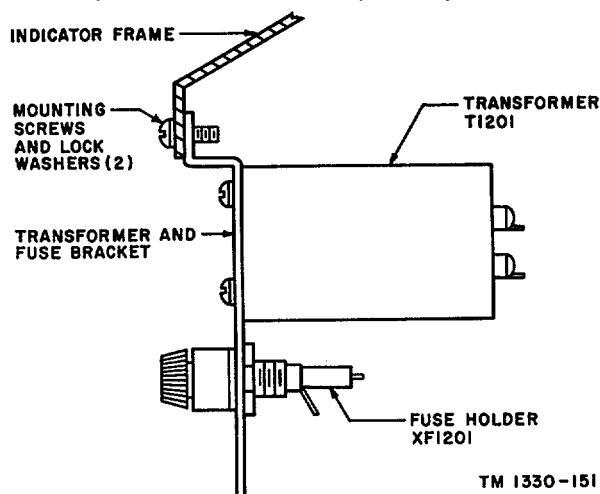

Figure 33. Transformer and fuse bracket installations.
k. Open the front door of the indicator frame. Mount the transformer and fuse bracket back of the angle (fig. 33), using the two screws and lockwashers supplied.